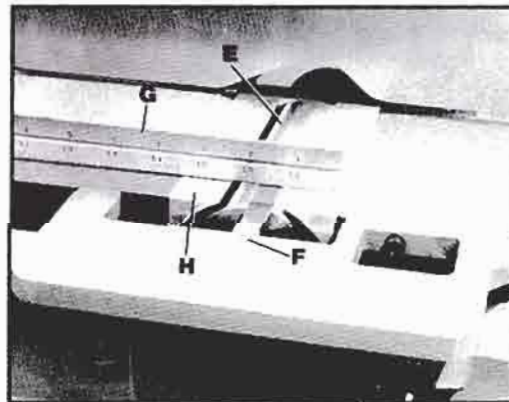

Fig. 31
1. Carefully rotate the cutterhead (E) Fig. 31, manually until the round portion of the cutterhead is on top as shown.
2. Place a .015" feeler gage (F) Fig. 31, on the cutterhead and using a straight edge (G) on the rear table, adjust the height of the rear table (H), until it is .015" above the cutterhead diameter.
3. Lock the rear table in position and remove the feeler gage (F) Fig. 31.